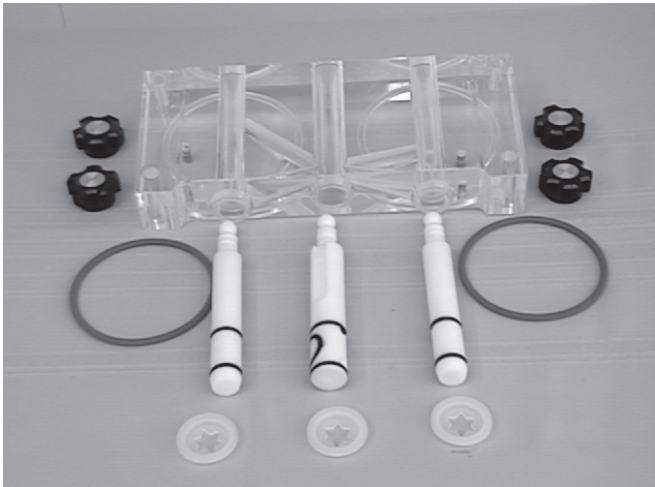

Figure 25. Exploded View of Front Door
- H. Install the spigot bodies with "O" Rings into the front door from the bottom (Fig.25). Push straight up until the spigots are in place. Install rosette caps.